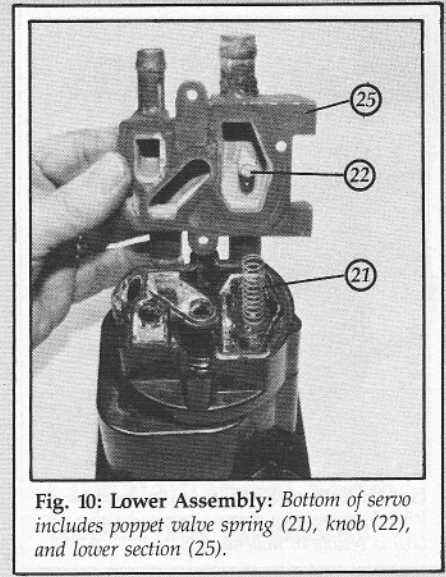

Fig. 10: Lower Assembly: Bottom of servo includes poppet valve spring (21), knob (22), and lower section (25).
Remove all hoses and brackets from the servo to permit easier handling. Remove the sealant and loosen the four screws securing the lower (red) section to the servo (Fig. 10). Carefully raise the lower section, noting the position of the poppet valve spring (21). Remove spring, gasket and lower section. If the coolant passages
Carefully clean the gasket surface of the lower (red) section. Place the new gasket on the midchamber; position the poppet valve spring (21) on the poppet valve so it will engage the knob (22) in the lower section as it is mated to the midchamber (Fig. 10). Mate the lower section to the midchamber. Insert the screws and tighten evenly in an alternating pattern. Don't overtighten; the upper housing is plastic and the threads strip easily.